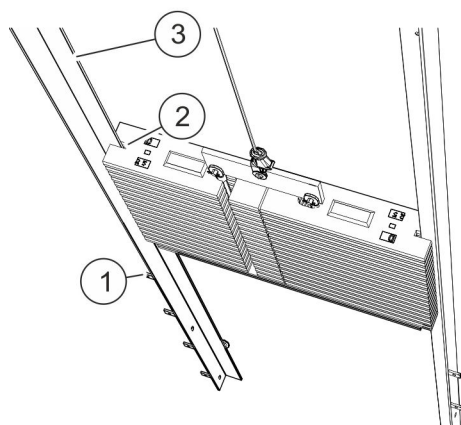

Fig. 34: Sliding angle bracket for weight guide in a tunnel
- 8. ➔ Push sliding angle brackets for the weight guide (Fig. 34/3) into the recesses on the weights on the left and right (Fig. 34/2) and fasten them with one hexagon bolt each on the top connection plate, in the slotted hole at the back and on the bottom connection plate.